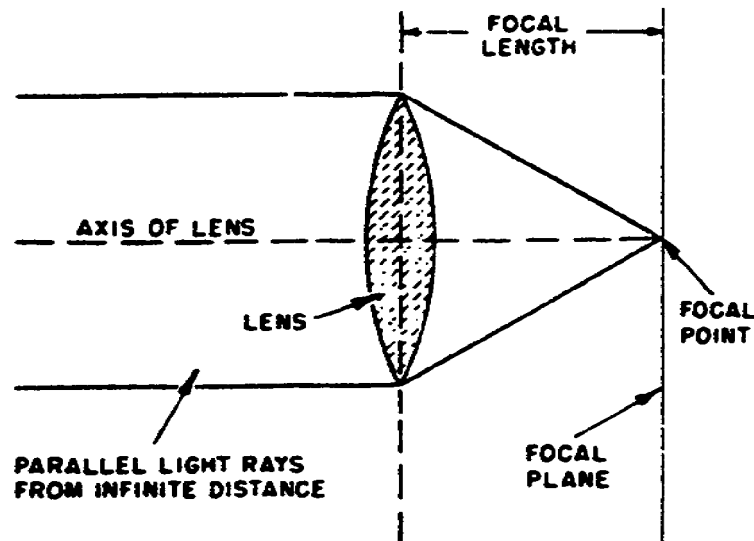

Figure 2-8. Focal Length.
c. Focal length controls image brightness, lens speed, and image size, (fig 2-8).